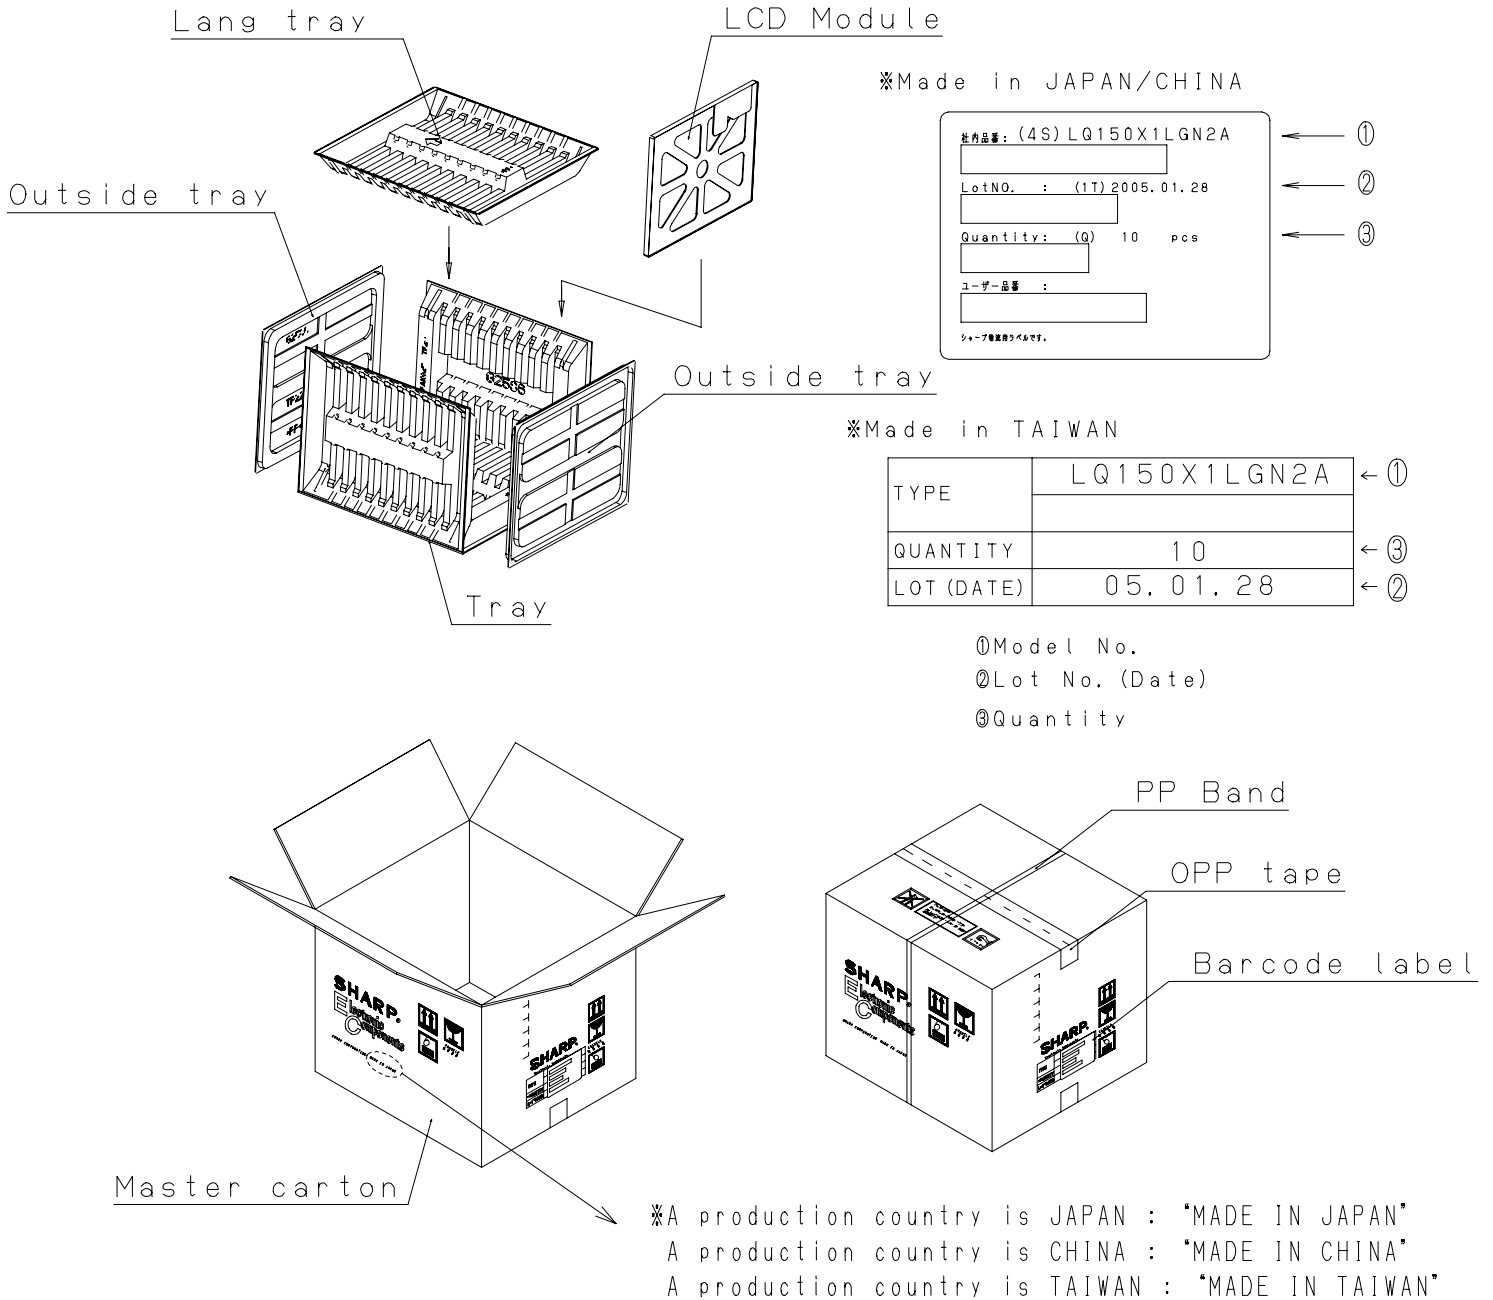

Fig.3 Packing Form (LQ150X1LGN2A)
- f) Packing form is shown in Fig.3